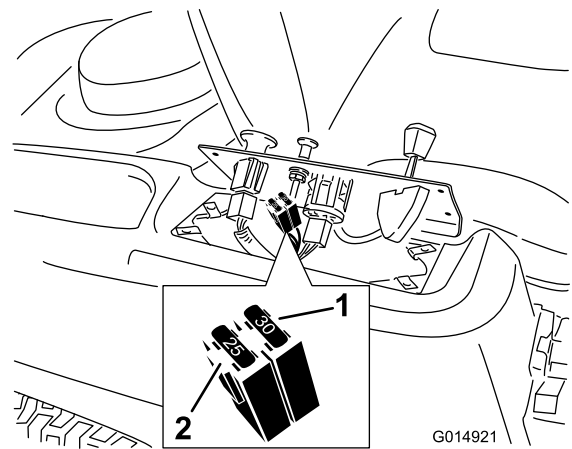

Figure 44
2. Lift the control pane up to access the main wiring harness and fuse block (Figure 44).
3. To replace a fuse, pull out on the fuse to remove it (Figure 44).